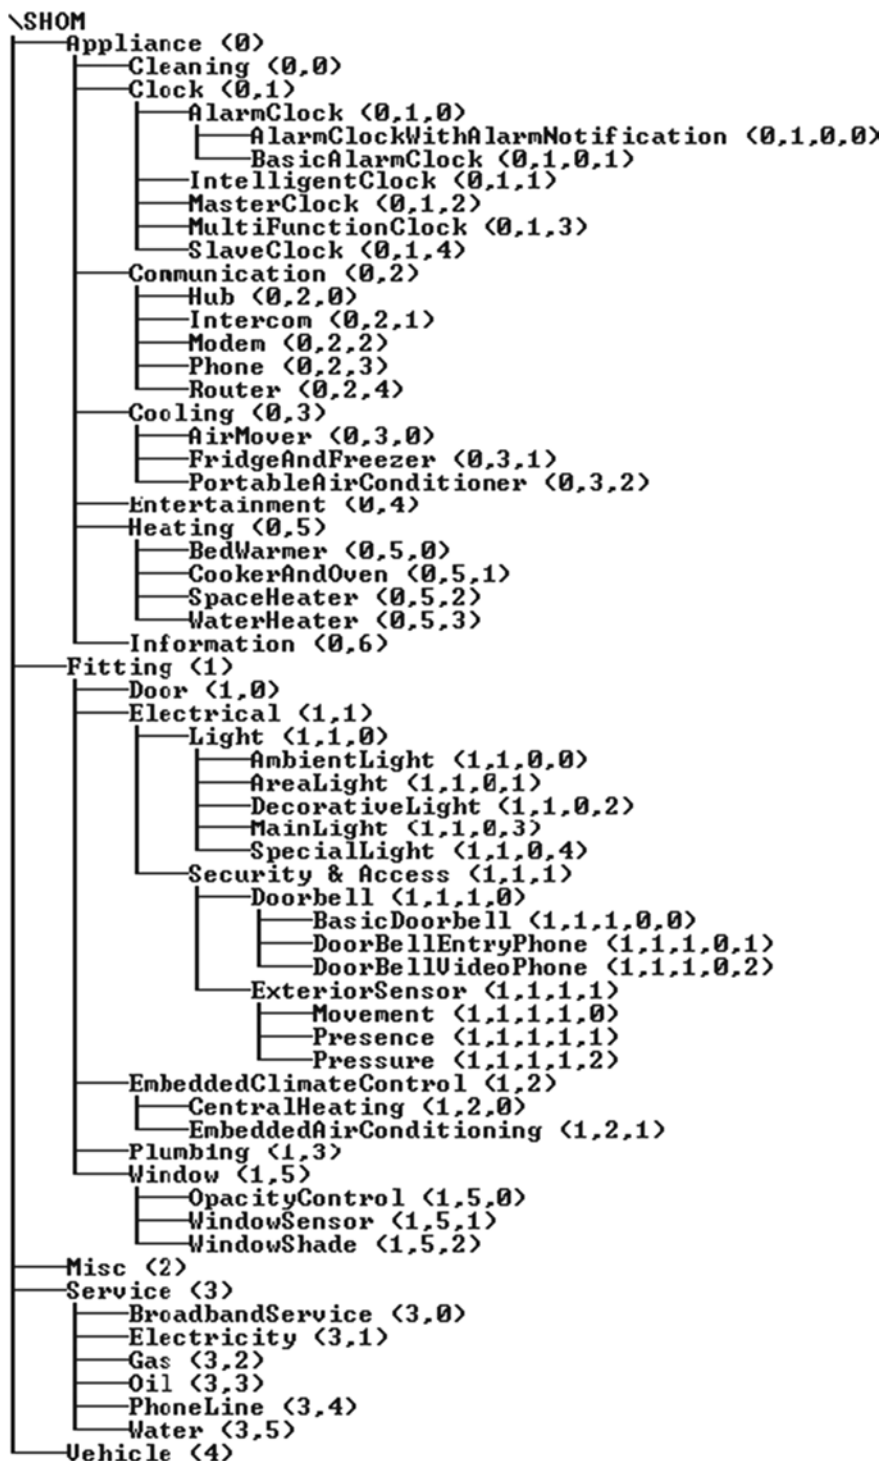

Figure 6-9. SHOM hierarchy—addressed version
To build our model, what we need to do is assign a sequential index number (starting from zero) to each item at each level in the hierarchy. This is rather like assigning an address to every house in a street that's just been newly built. That's what we do in Figure 6-9.
- To allow for updates, the object model itself would need to have an embedded version number. This could either be done by replacing the \SHOM at the top of the map (see Figure 6-9) with a name that includes the version number (e.g., \SHOM_V2.1.7) or simply by prefixing the \SHOM root with a version number and bumping that number whenever necessary. For example, referring to Figure 6-9, instead of communication hubs being 0,2,0 they would (in, say, SHOM version five) be 5,0,2,0.